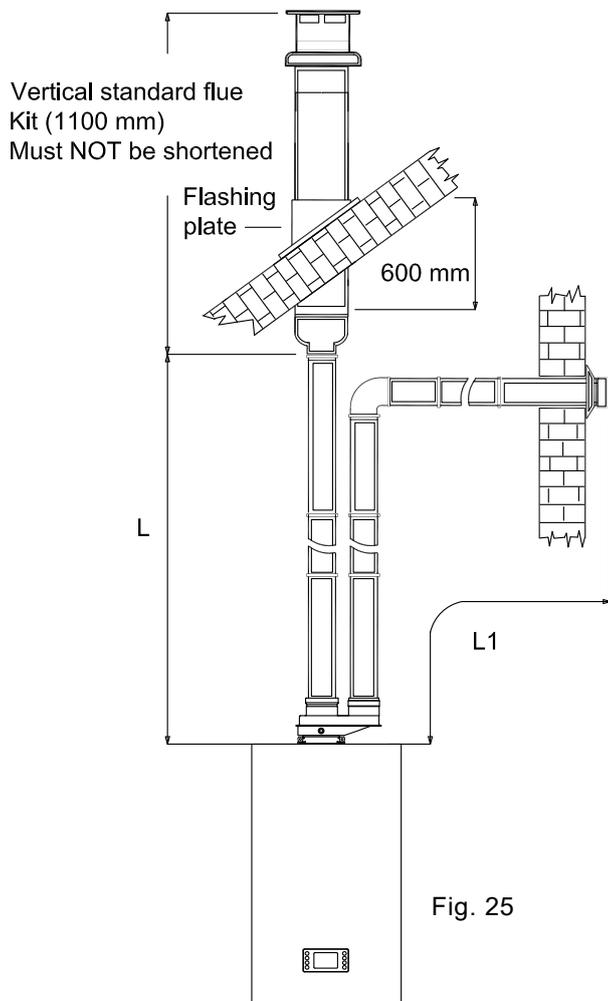

Fig. 25
5.16 Exhaust/suction system with with two separate rated 80 dia. pipes exhaust on flat or sloping roof, suction from vertical wall (fig. 25).